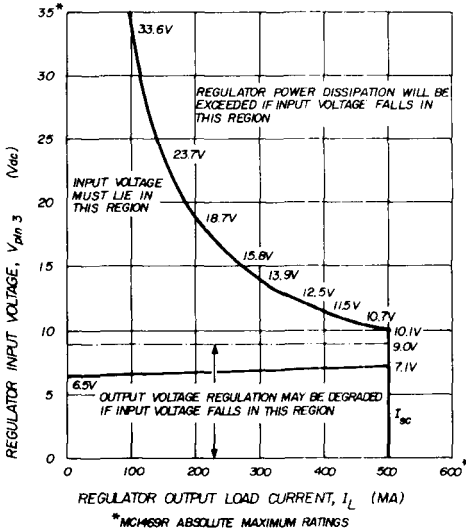

fig. 2. Restrictions on the unregulated input voltage to the 3.5 V dc regulator circuit.
7. The data from steps 4 and 6 are plotted in fig. 2. Note that  $V_{pin\ 3} (\text{max})$  is restricted to 35.0 Vdc, and that  $V_{pin\ 3} (\text{min})$  is set equal to 9.0 Vdc. The unregulated input voltage must lie between 9.0 and 10.1 Vdc at  $I_L = 500$  mA, and between 9.0 and 35.0 Vdc when  $I_L = 0$ .